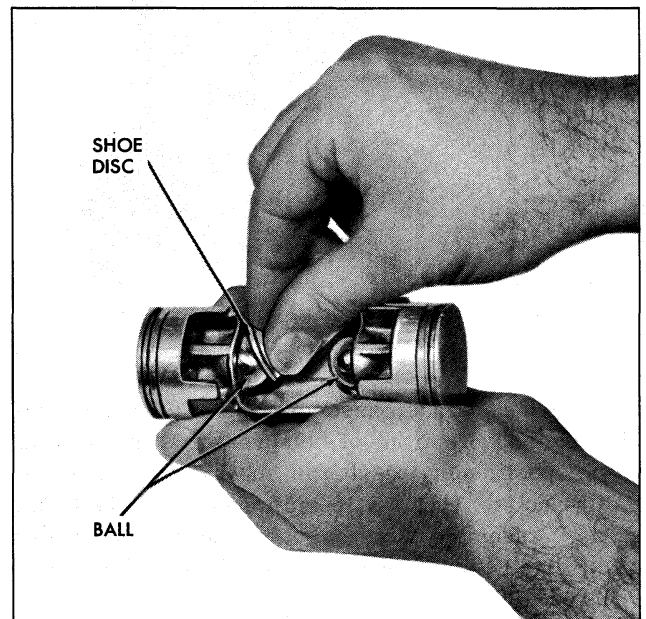

Fig. 5-20 Zero Shoe and Ball at Front of Piston
8. Place a ZERO shoe over each ball in FRONT end of piston. Front end of piston has an identifying notch in casting web (Fig. 5-20).
9. Place a ball only in rear ball pocket of each of three pistons (Fig. 5-20).